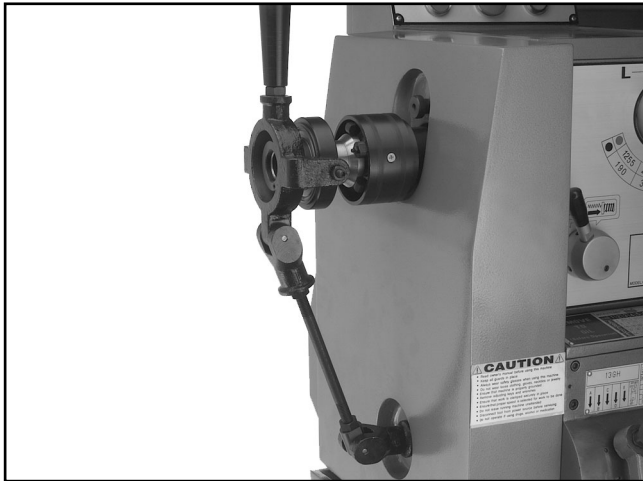

Figure 11. Completed collet closer assembly.
8. The ideal locked position for the collet closer is shown in the diagram in **Figure 11**.